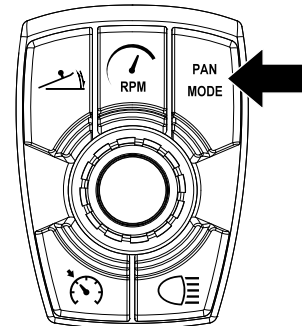

Figure 87. Panning Mode Button
1. Press and hold the **panning mode button** (Figure 87) for 3 seconds to activate panning mode. The trowel blades will be pitched flat and the pitch systems retracted to allow for the use of float pans.